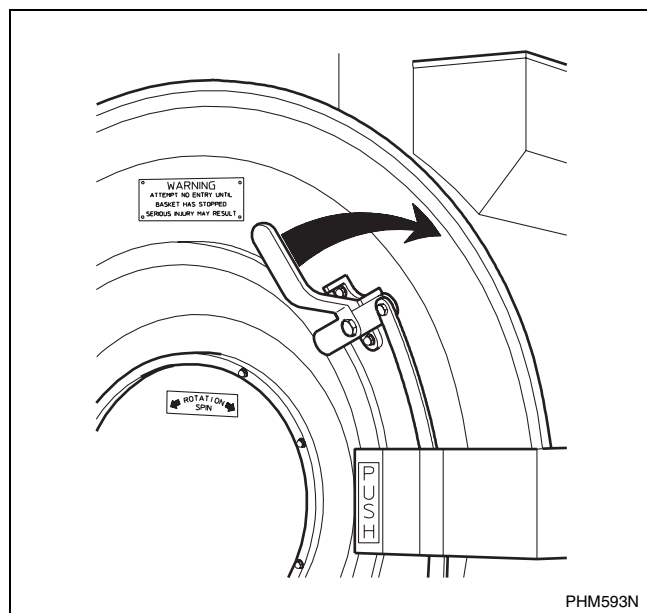

Figure 7
3. Use right hand to turn door handle clockwise and swing the door left to open. Refer to *Figure 7*.